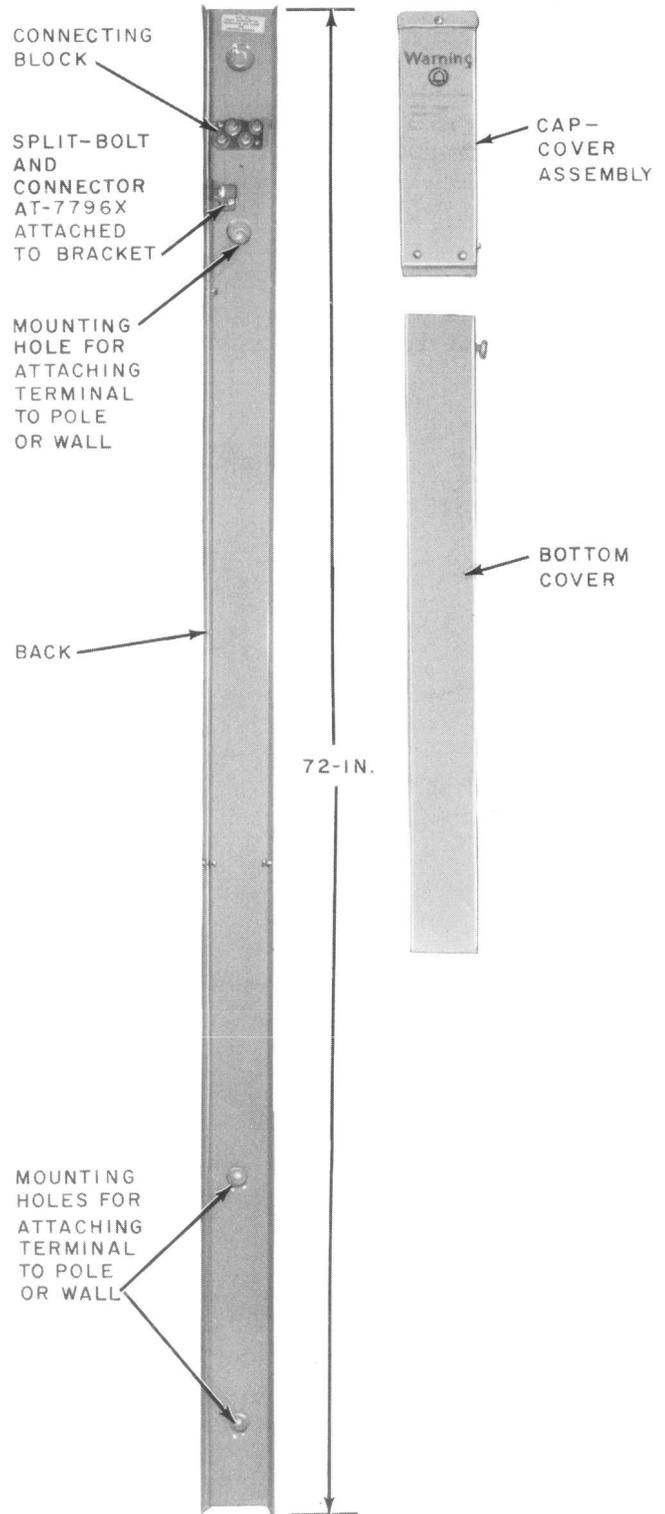

Fig. 1—D Wire Terminal
2.01 The D buried wire terminal (Fig. 1) is a free standing terminal consisting of a cap-cover assembly, a 6 foot long back with a bottom cover, a two pair connecting block, an AT-7796X connector, and a split-bolt clamp. It can be mounted either free standing or on the base of a pole.